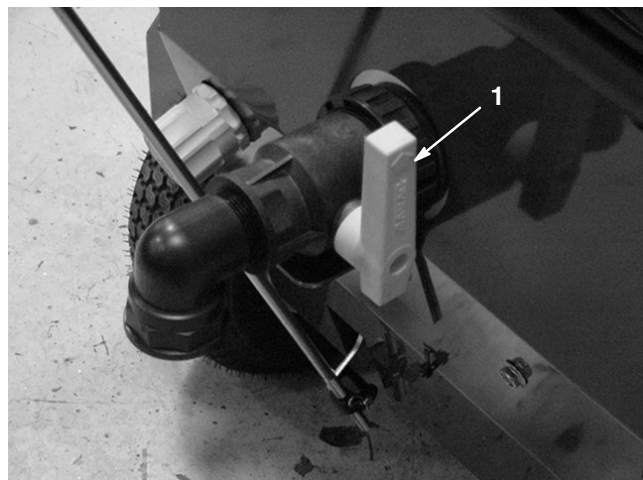

Figure 19
3. Make sure the paint control lever is in the released position and the tank drain valve (Fig. 19) is closed.